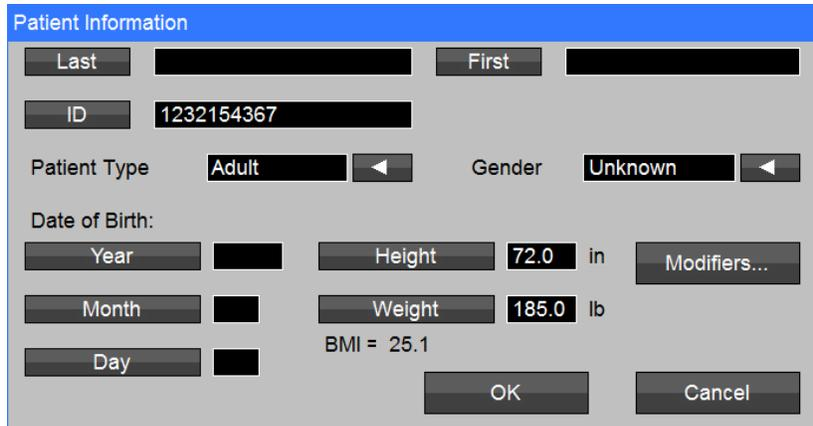

Figure 41: Patient Information Screen
- 2) Use the drop down menus, and the Up/Down arrows to enter patient specific information (refer to Figure 41).
- Select Modifiers. Refer to Figure 41.